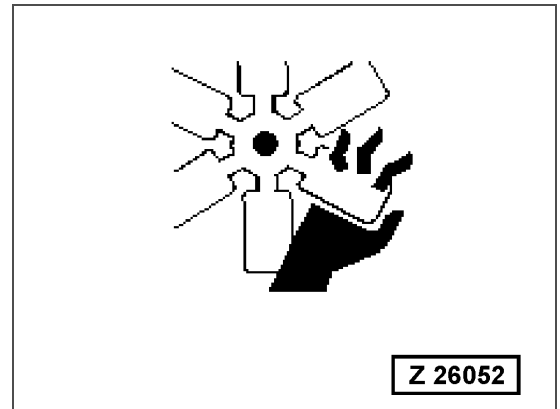

Fig. 2-40
- When carrying out operations near rotating parts, there is a hazard of being caught in the parts, so be careful not to come close (Fig. 2-40).